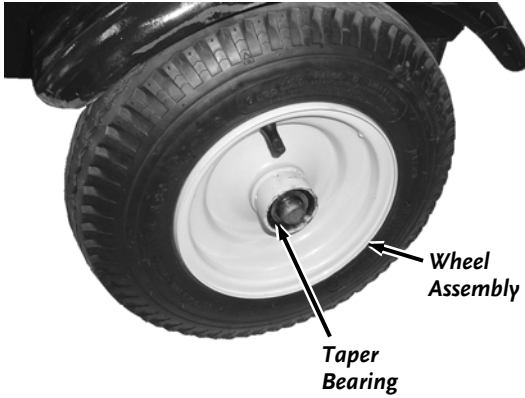

Figure 58
11. Slide a Wheel Assembly onto the Axle Shaft. Make sure the open side of the Wheel Hub with the loose Taper Bearing is facing towards you (**Figure 58**).